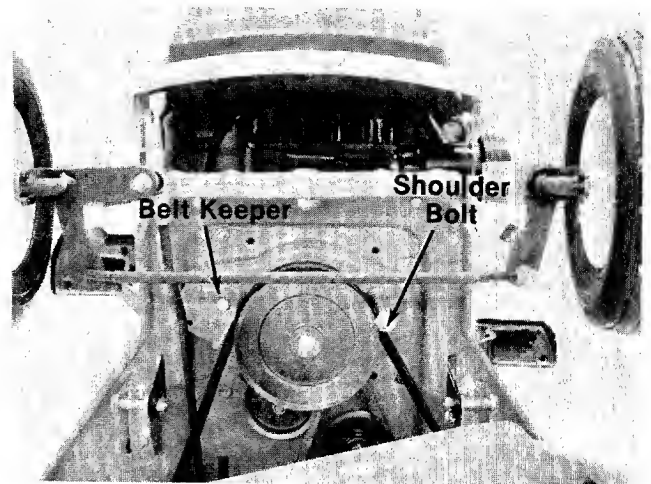

FIGURE 30.
2. Remove the belt keeper and shoulder bolt on the engine pulley. See figure 30.